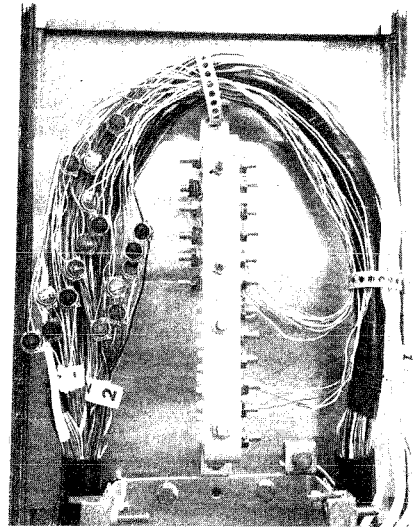

Fig. 14—Second Terminal Block in place
(8) Fig. 14 shows the second terminal block in place with all terminal block wire lead assemblies connected to the cable conductors.
(9) Protected type terminal blocks are installed on the telephone bracket and the wire leads connected to the cable conductors in a similar manner as that described for the non-protected type.